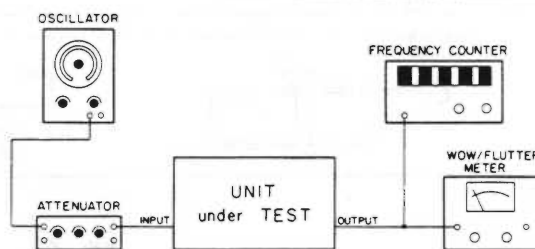

Fig. 2-8.
1. Connect a Wow-and-Flutter Meter to the deck as shown in Fig. 2-8.